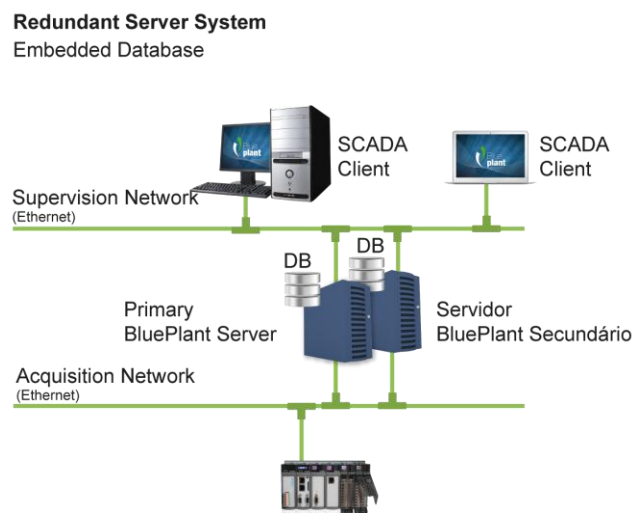

Figure 7-5. Redundant Server System Embedded Database
- The embedded databases in the primary and secondary servers are used to store the historical data of Alarm and/or Historian modules, with automatic data synchronization between them. Figure 7-5 shows that system.